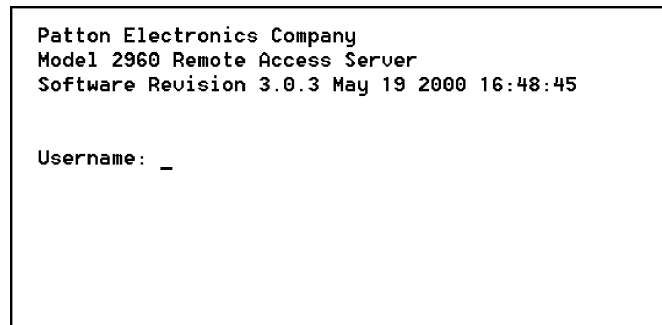

Figure 20. Login window
4. Press <RETURN> to display the login window, which will resemble that shown in figure 20.